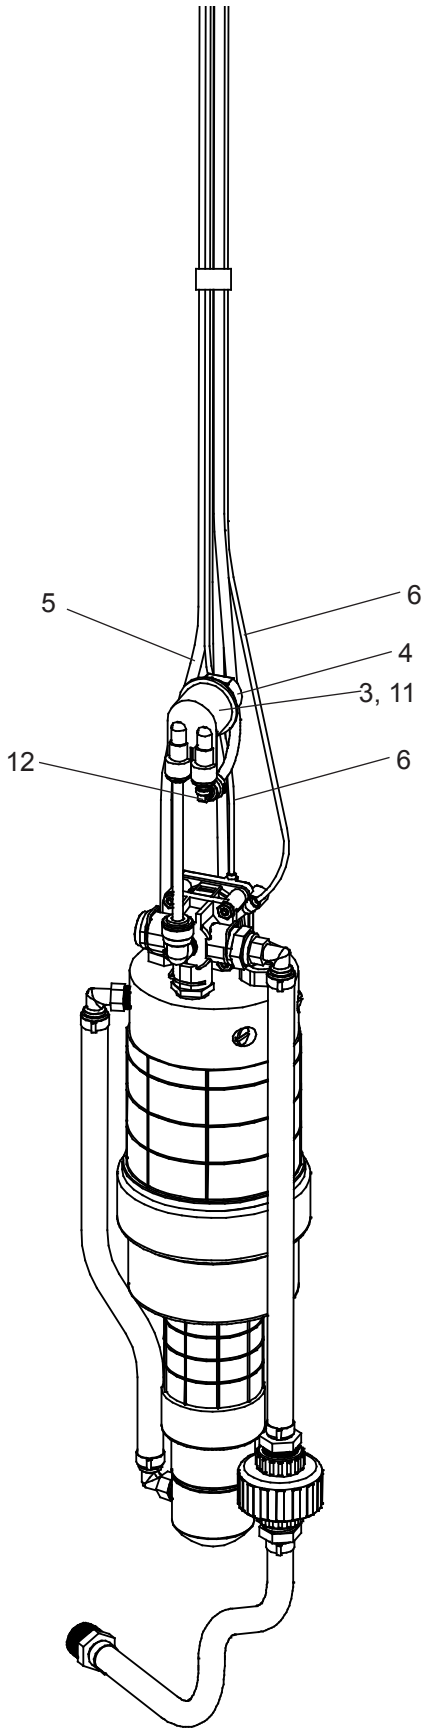

FIG. 4
- Remove the cleanout plug from the PVC column. Remove the valve assembly from the PVC column by carefully pulling up on the strap and connecting tubing at the same time. Pressure test the valve assembly for leaks. Check stream height from the bubbler. Stream height is factory set at 35 PSI. If supply pressure varies greatly from this, adjust the screw on the regulator (Item 11, Page 6, Fig. 4). Clockwise adjustment will raise stream and counter-clockwise adjustment will lower stream. For best adjustment stream height should be approx. 1-1/2" (38mm) above the bubbler guard. Replace the valve into the PVC column. Make sure the supply hose coils into the bottom of the PVC column without any kinks and double check that the valve is positioned fully at the bottom of the PVC column. Cap the PVC column.